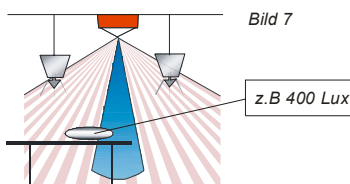

Bild 7
- Adjust the brightness by varying the artificial light and shutter/blind until it corresponds to the desired value on the workspace (Figure 7).